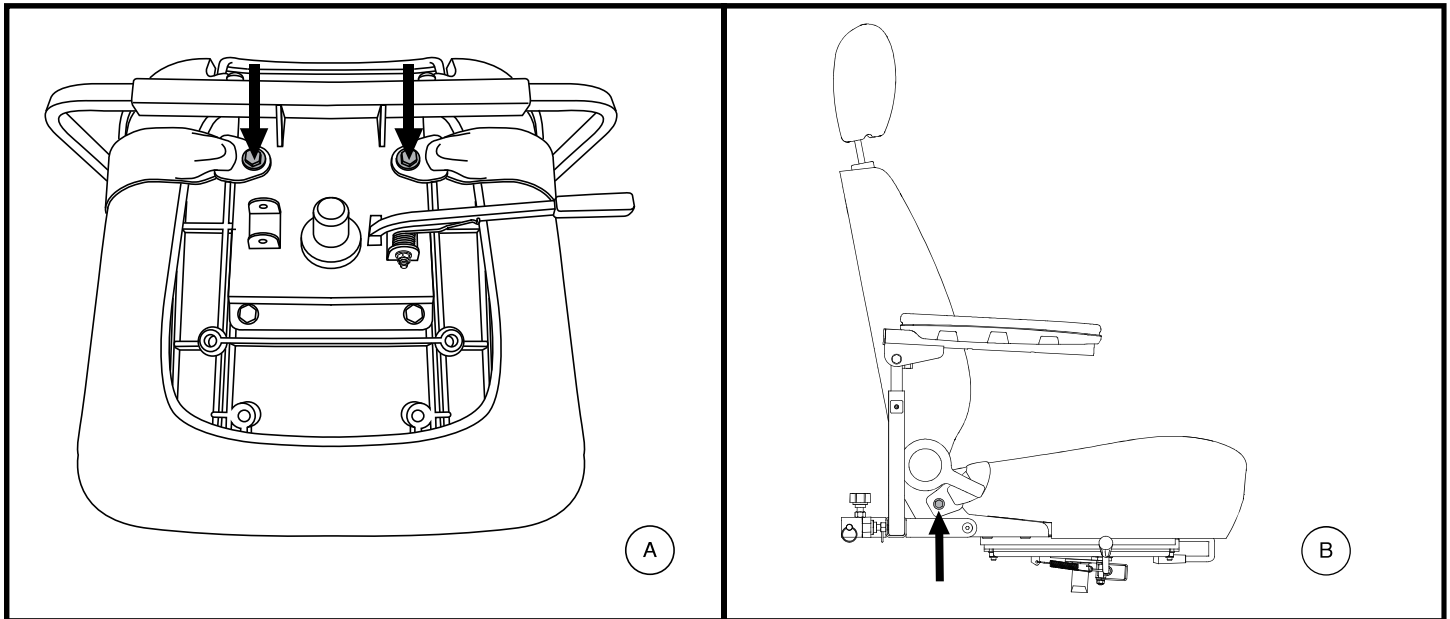

Figure 23. Positioning Belt Bolts
Your scooter seat may be equipped with a positioning belt that can be adjusted for operator comfort. **See figure 23.** The positioning belt is designed to help support the operator so that he or she does not slide down or forward in the seat. The positioning belt is not designed for use as a restraining product.
2. If necessary, place the seat upside down so that you can see the bottom of the seat base. **See figure 23.**